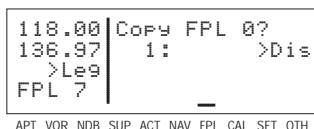

Figure 4-1
2. Select a flight plan page (preferably other than FPL 0) which does not contain a flight plan (figure 4-1). If all of the flight plan pages contain flight plans, refer to section 4.1.6, "Deleting Flight Plans".